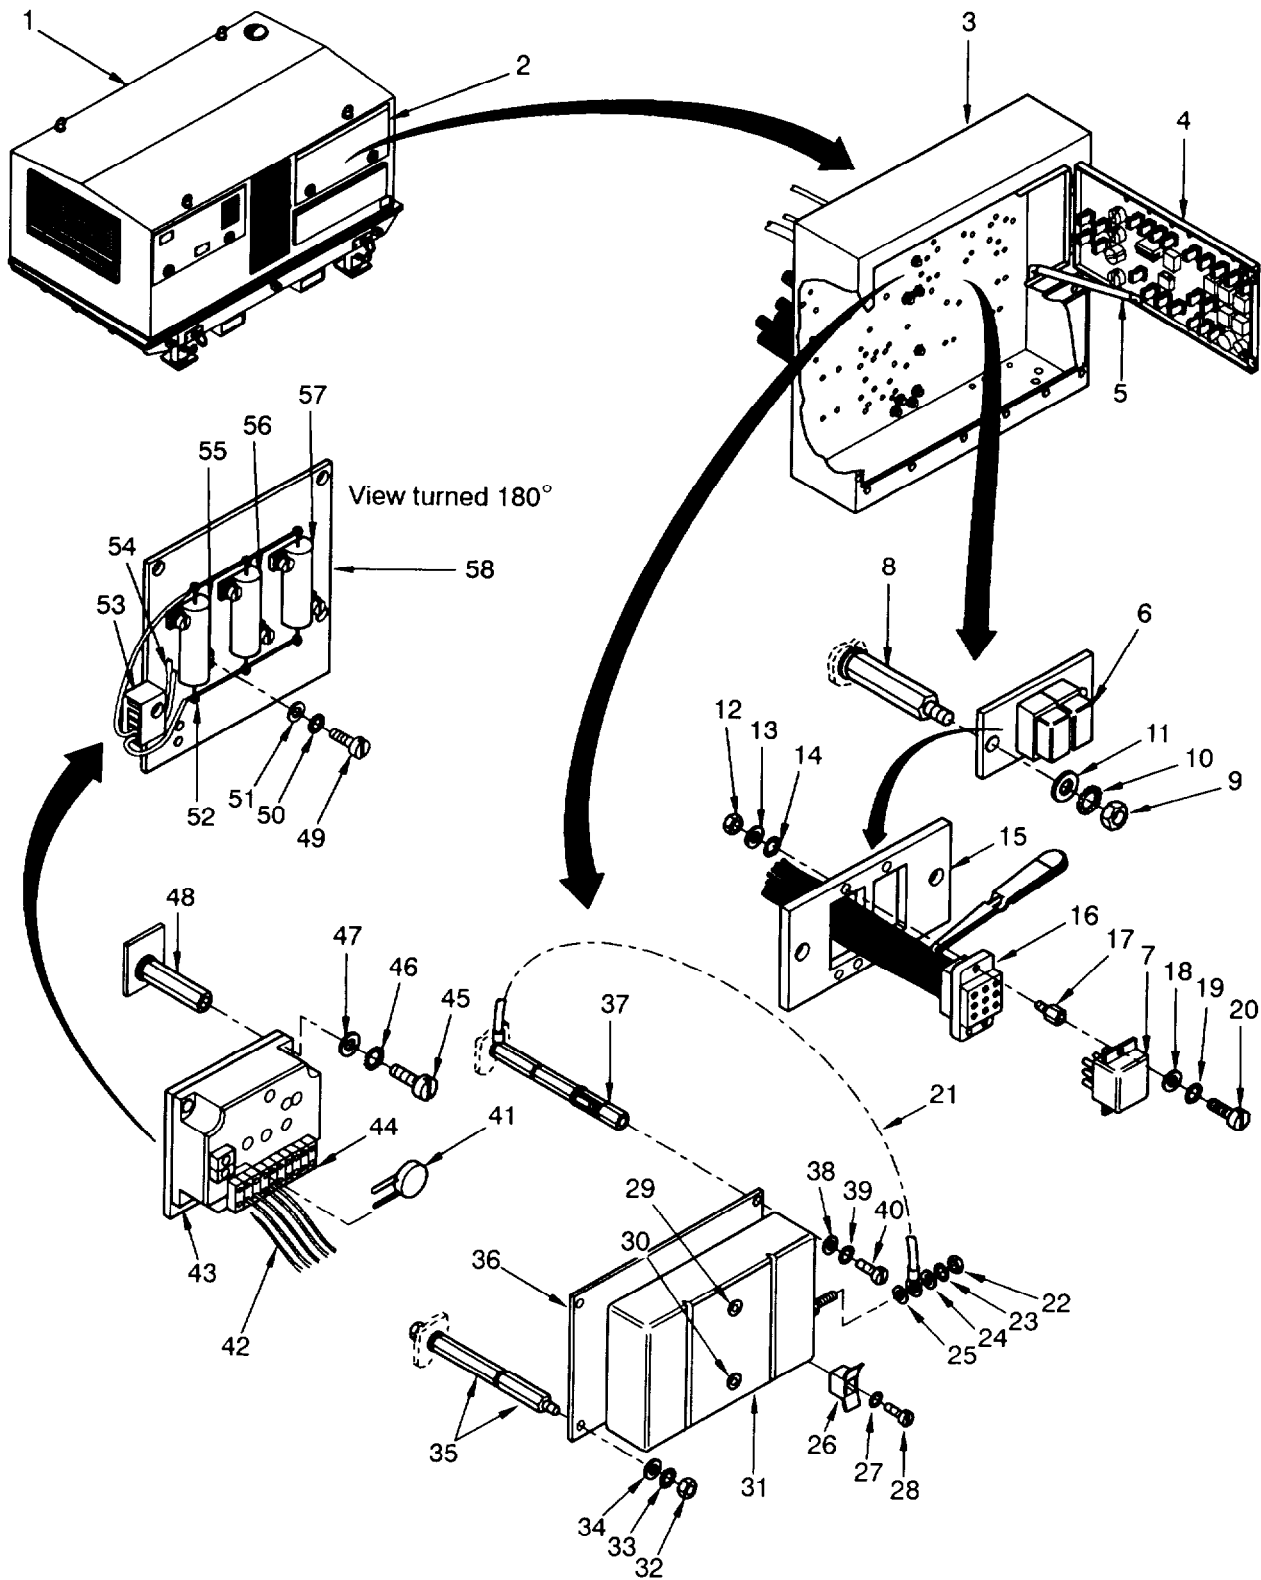

Figure 5-27 Control Cabinet Assembly, Relays K19, K20, Digital Isochronous Load Sharing Module N4, Speed Governor Assembly N1, Resistor Maintenance.
1. Open flap (2, figure 5-27) on unit hood assembly (1).
2. Open front panel (4) on control cabinet assembly (3) and secure with prop (5).